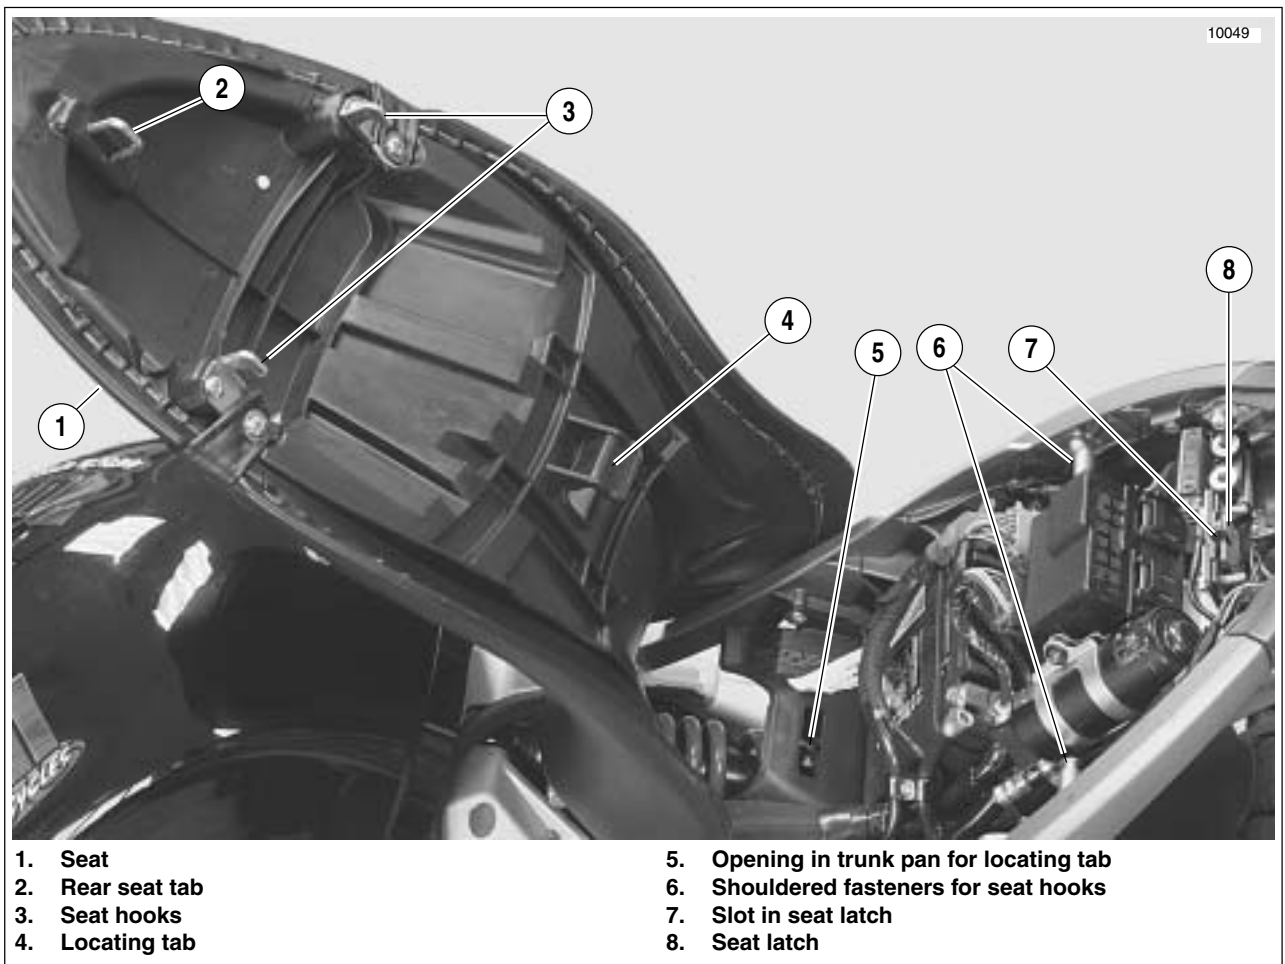

Figure 2-117. Seat and Attachment
See Figure 2-117. The seat anchors in three places on the vehicle. The first is where the locating tab (4) on the seat inserts into the opening on the trunk pan (5). The second is the pair of seats hooks (3) that slide onto the shouldered fasteners (6) located in the left and right tail sections. The last is the rear seat tab (2) which fits into the slot (7) on the seat latch (8).
1. See Figure 2-117. Insert ignition key into seat lock located on left side of motorcycle below seat.
3. Lift and remove seat (1).